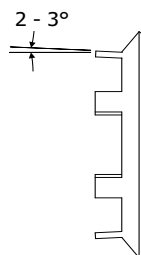

Figure 16: Coil Gasket Preparation
- 2) Using Needle-Nose Pliers, form the 6 tabs on each Coil Gasket by bending each tab outward 2 to 3 degrees as shown in Figure 16. This will secure the Gasket into the Spud's inside diameter.